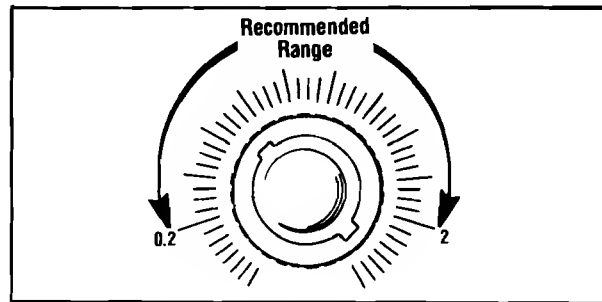

Fig. 3. COARSE Frequency Control.
1. The **COARSE** frequency control adjusts from approximately two-tenths to two times the indicated range value. For example, if the **10 K** range is selected and the **COARSE** frequency control is set to the most counterclockwise major line, the output frequency is approximately 2 kHz. When the **COARSE** frequency control is set to the most clockwise major line, the output frequency is approximately 20 kHz. Fig. 3 shows these major lines.
Keep the (starting) **COARSE** frequency control between the 0.2 and 2 positions (see Fig. 3).